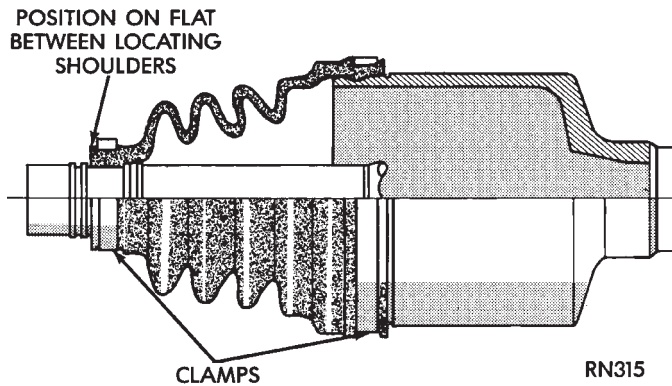

Fig. 16 Right Inner C/V Joint S.S.G.
- (1) Slide small end boot clamp onto interconnecting shaft.
(2) Install boot onto interconnecting shaft, position boot on the flat between the locating shoulders (Fig. 16).
(3) Position clamp on boot and crimp bridge of clamp with Crimper Special Tool C-4124.